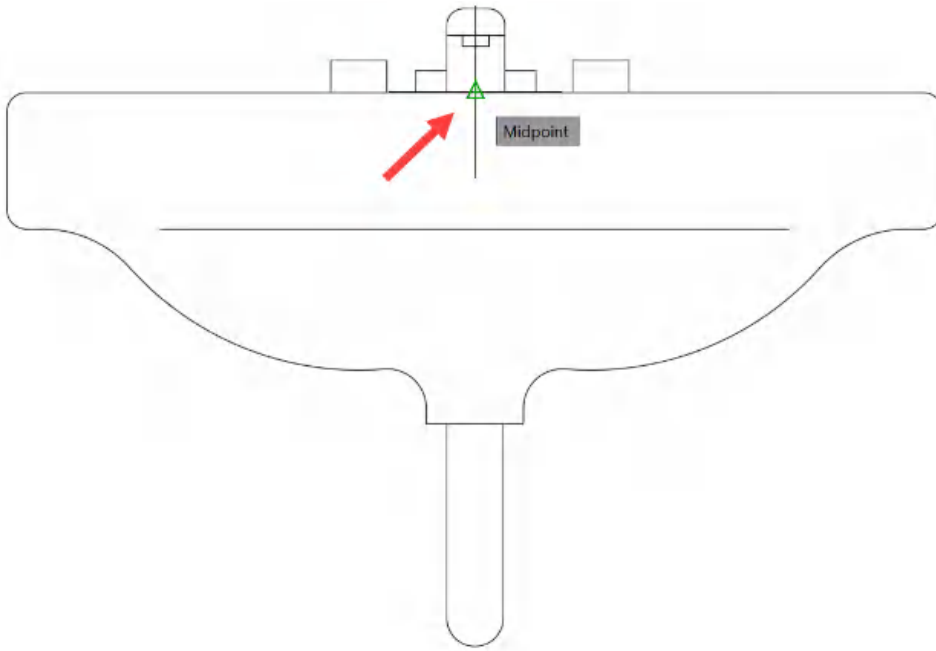

Figure 12.5: The Midpoint object snap to be used as the insertion point
5. You will be taken into the drawing to select an insertion point for your block. Select the **Midpoint** object snap shown in *Figure 12.5*.